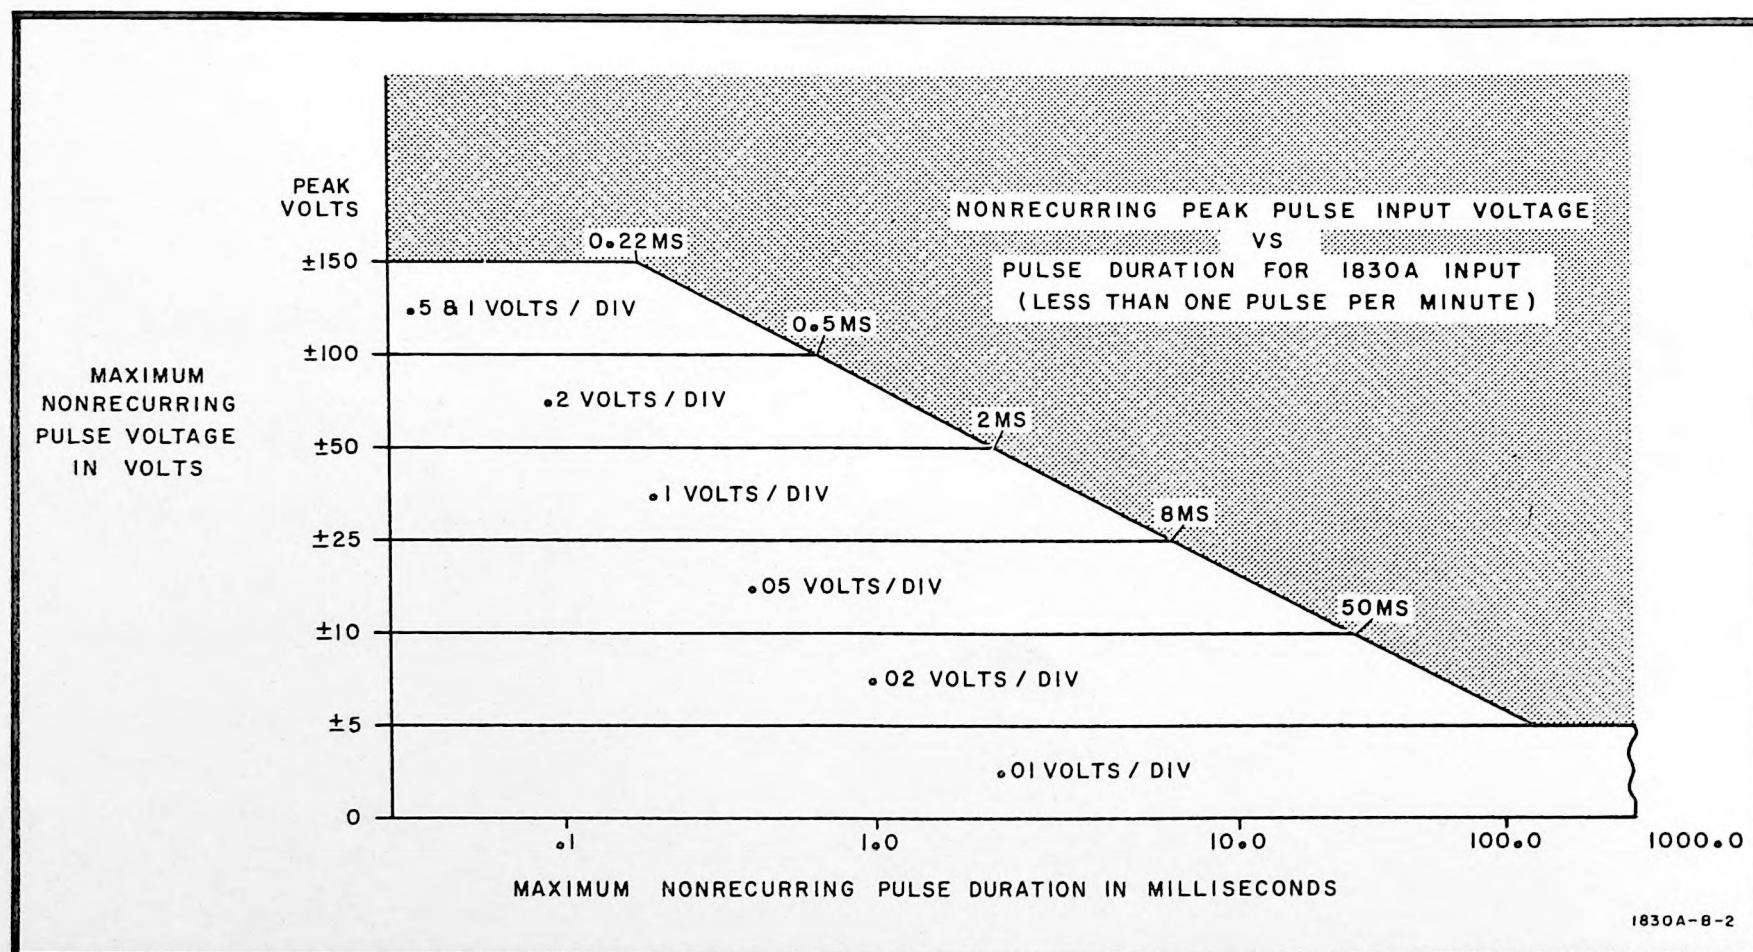
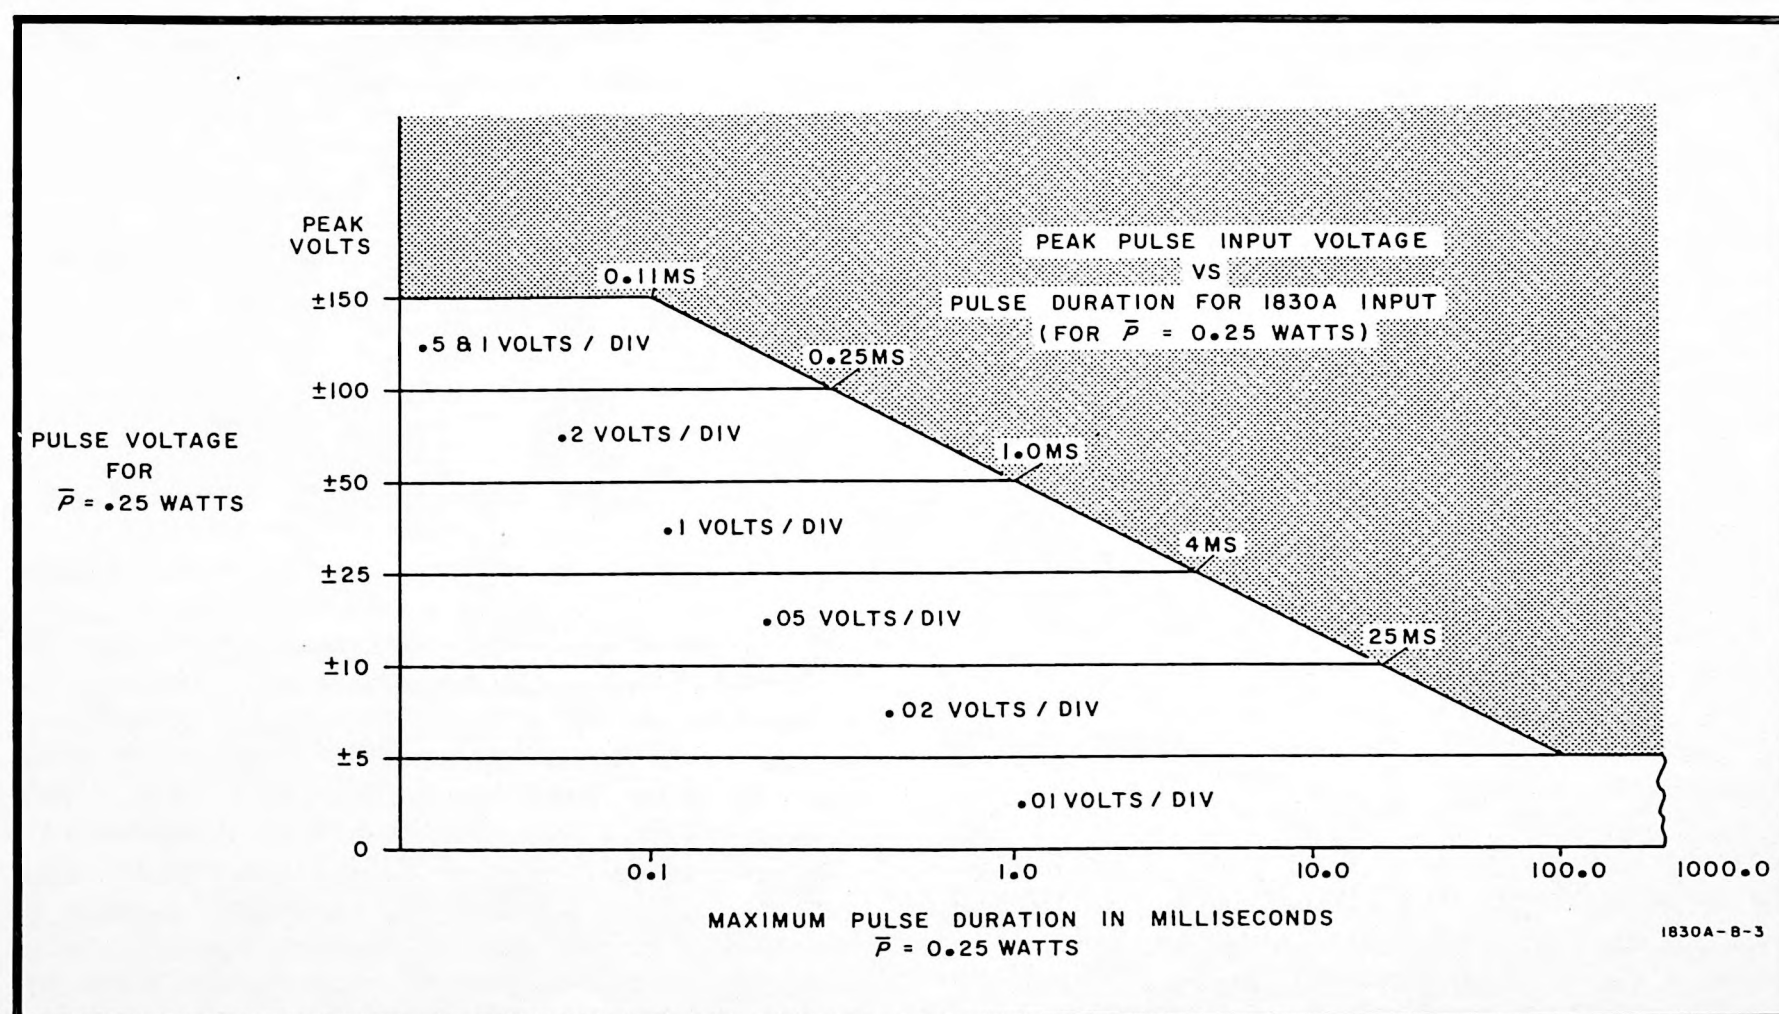

Figure 3-8. Maximum Input, Nonrecurring Signal
Figure 3-9. Peak Pulse Input ($\bar{P} = 0.25$ watts)
3-27. The chart of Figure 3-8 provides a rapid reference for determining the maximum peak pulse voltage which can safely be input for pulses with a recurrence rate of less than 1 per minute. For signals having an average power not exceeding 1/4 watt with a pulse recurrence rate greater than 1 per minute, the peak pulse voltage limit is given in Figure 3-9. The information which follows explains how to determine the maximum parameters of a signal which can safely be input to the Model 1830A. The basis for these limits is explained and several examples are included to illustrate the use of the applicable formula.
3-33. All of the input limits discussed above must be applied simultaneously to avoid exceeding the attenuator or preamplifier power and voltage capability. The limits are plotted in Figure 3-8 for a nonrecurring pulse (inequality (1), $F \ll .2$) for all VOLTS/DIV settings. This shows the permitted relationships between peak amplitude input voltage and pulse duration for each attenuator range. Shown in Figure 3-9 is the peak amplitude input voltage and pulse duration which can be safely input when $\bar{P}_A = .25$ watts, and is derived from inequality (1). This assumes that the input signal has a dc level which results in an average dissipation of 1/4 watt.